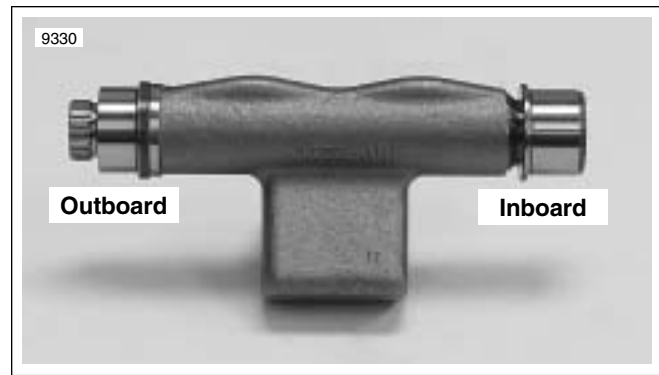

Figure 3-170. Installed Inner Races
3. See Figure 3-170. Inboard bearing race is even with the end of the counterbalancer shaft. Outboard bearing race is fully seated against shoulder of counterbalancer.